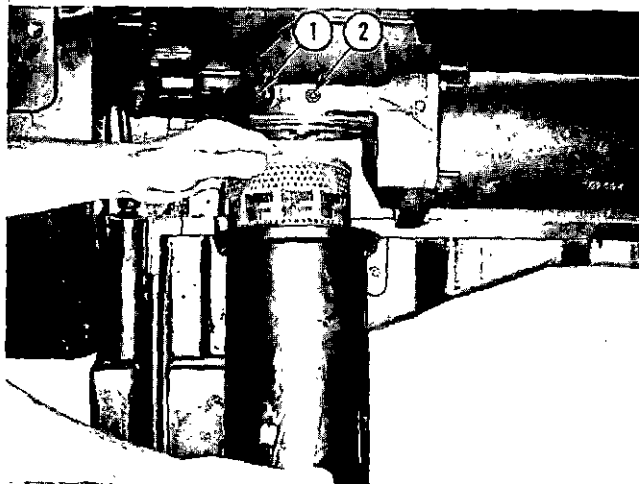

Fig. 2-5 (V51908) Removing lubricating oil filter element V-903
d. If element is clogged, the change period should be shortened. Oil pressure drop reading across filter is the best way to determine change periods. Pressure drop from inlet (1, Fig. 2-5) to outlet side (2) of filter should not exceed 10